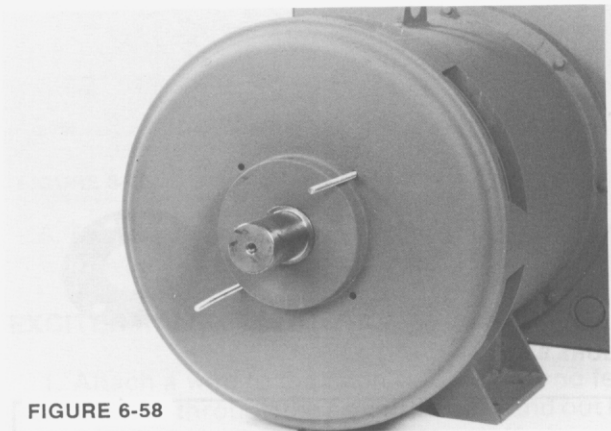
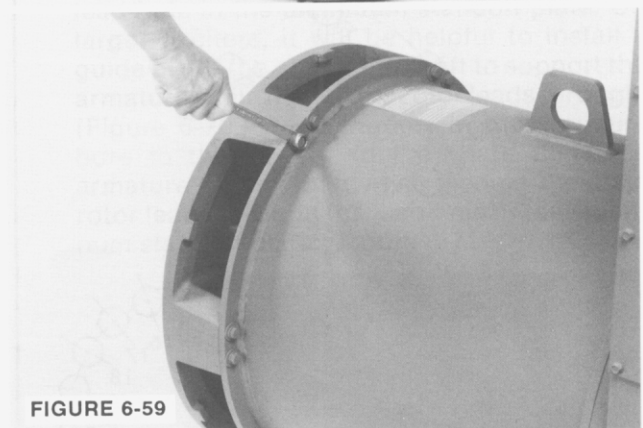

FIGURE 6-58
FIGURE 6-59
- b. For two-bearing generators, insert two guide pins in the rear bearing lock holes. (Figure 6-57.) Fill the grease cavity of the drive end bracket 1/3 to 1/2 full of Chevron SRI (or equivalent) grease. Assemble all grease plugs in the bracket. Mount the bracket on the bearing and guide the bearing lock pins through the bracket holes. (Figure 6-58.) Align the drive end bracket and mount with the capscrews. (Figure 6-59.) Insert two capscrews with lockwashers into the bearing lock and tighten. Remove the guide pins and replace with the remaining two capscrews with lock washers. Torque bearing cap screws to 25 lb-ft (34 N-m). Torque bracket mounting capscrews per specifications given in section 12.